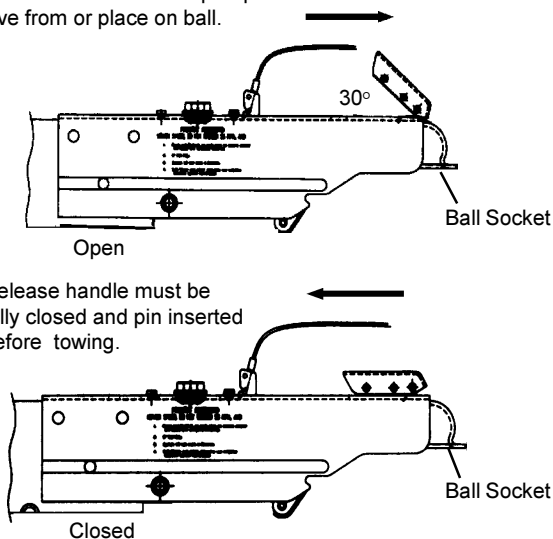

Figure S6: Surge Brake Actuator & Coupling Assembly
For boat models with the Surge Brake Actuator and Coupling Assembly shown in Figure S6, lift the release handle to unlock the coupler. Push down on the release handle/locking lever to lock the trailer to the ball hitch. The locking pin, provided with the trailer, or a padlock **must be inserted** in the locking lever hole. This ensures the coupler's locking lever remains in the locked position during the towing of the trailer. Refer to Section S-3 Operation for additional information on couplers and hitching to the tow vehicle.
- Lift up on release handle fully (approximately 30° for a trailer with brake actuator and coupler assembly) to allow the ball latch to rotate open. The handle will remain up to indicate that it is not yet attached to the ball. See Figure S6.